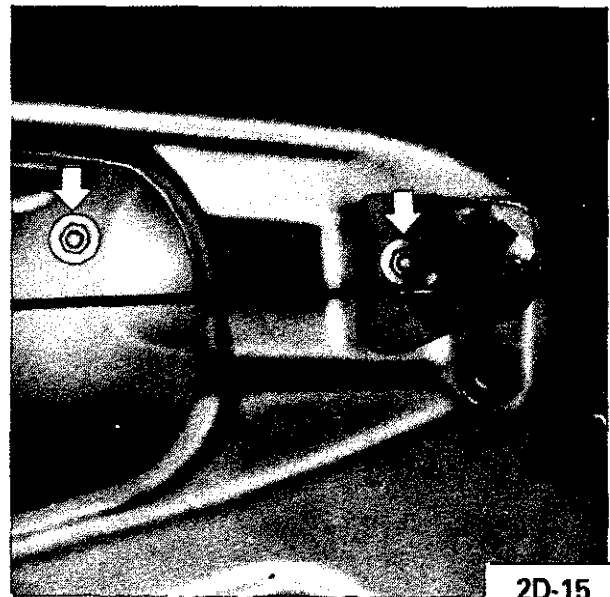

Figure 2D-15 Outside Door Handle Hex. Nuts
2. With window closed, unscrew hex nut and remove door outside handle. See Figure 2D-15.